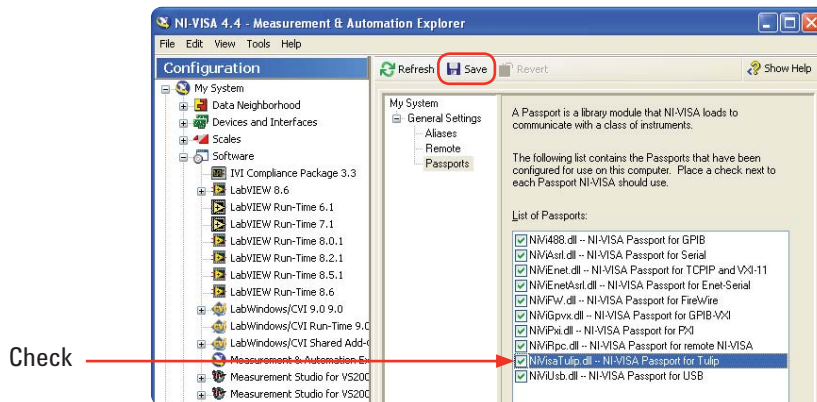

Figure 13. Enabling the NI-VISA Passport editor in NI-MAX
- Select the **Passport for Tulip (NIVisaTulip.dll)** check box. See Figure 13.